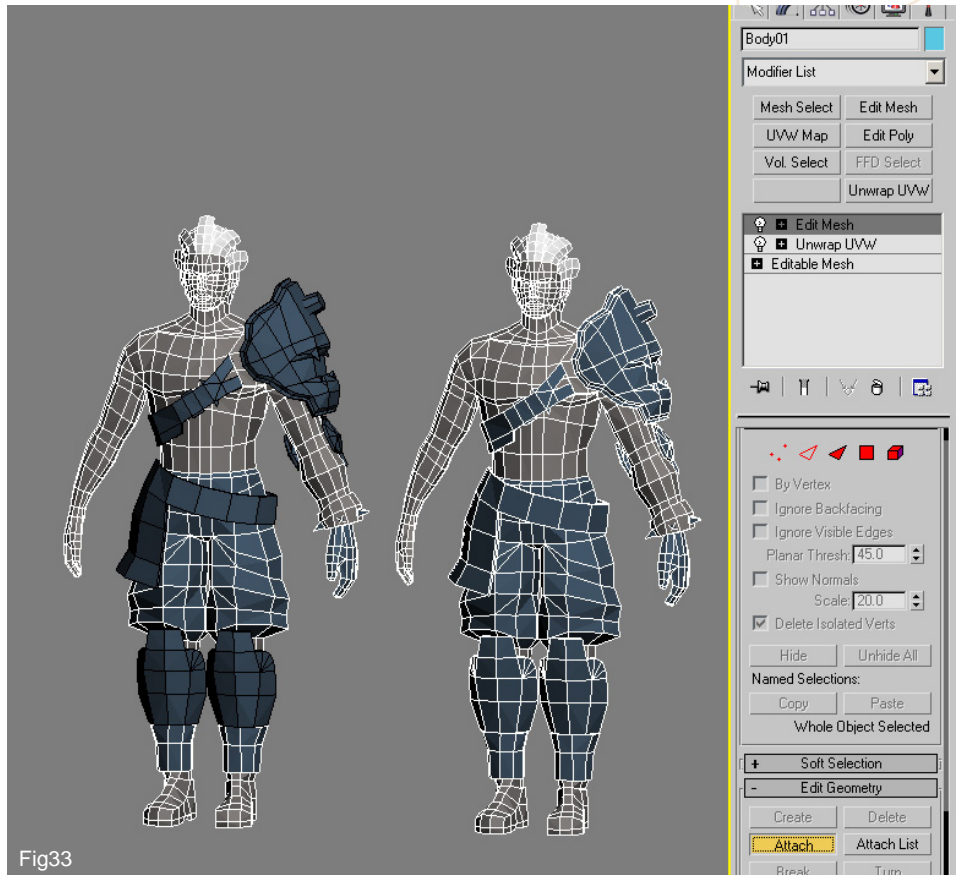

Fig33
33. In order to see all the unwrapped geometry together we will have to attach all the pieces of geometry into a single mesh temporarily. Select the main body and then click on Attach in the modify panel and then select the remaining meshes as shown in Fig 33. You can see in the picture that the model on the right is a single mesh by the highlighted geometry where as the left version does not yet include some of the armour. When you apply an Unwrap UVW modifier you will now see every piece of geometry in the edit window and what you need to do now is decide which pieces to put into which template. This is entirely subjective and does not ultimately matter but keep the various pieces intact when you divide them up and avoid splitting individual pieces across two different templates. You may decide to try and keep the head and body parts together or split them up depending on how you wish to make use of the space available. You will inevitably need to re-size certain elements and I advise that you afford a bit more space to more detailed aspects such as the face and hands for example. Sometimes certain shapes fit better together and mean less wasted space but again it is a personal choice how you divide everything. Arrange as many of your chosen pieces as you can into the template and then close the dialogue box. Now make sure the same elements are attached as a single object. You will need to Detach pieces from the character and then re-attach them in the same manner as before in order to do this. You will have to do this in sub-object mode and to make things easier you can make selections in sub-object Element mode (next to polygon mode). This will enable you to select entire elements of geometry. The remaining pieces can then be attached into a second mesh that can be unwrapped in one piece and these will make up the second template.